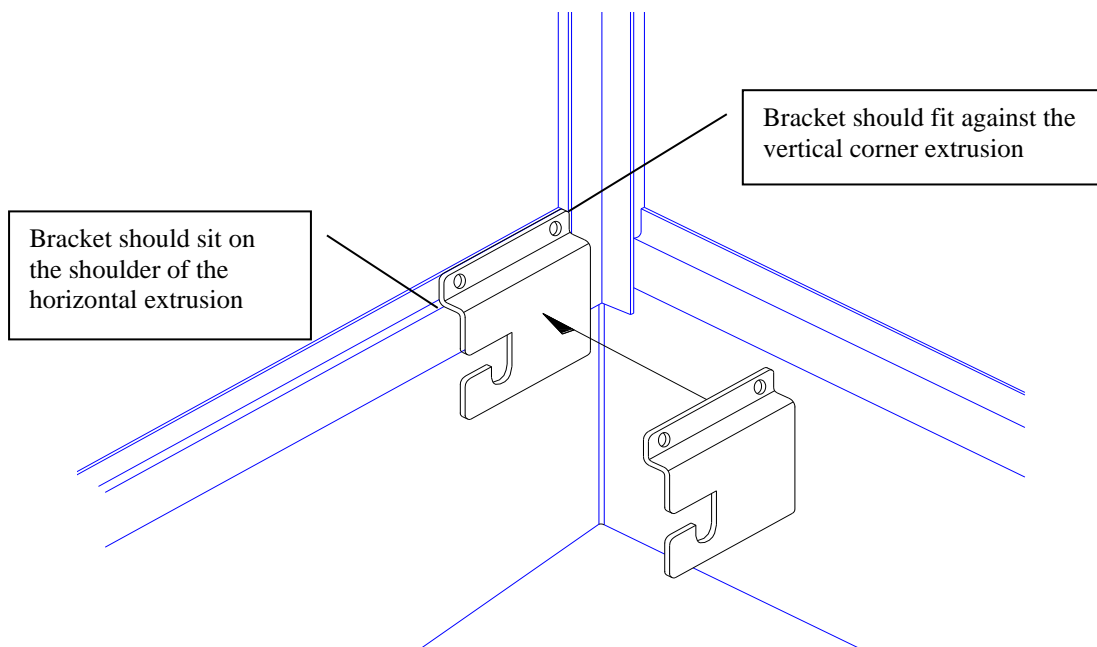

Figure 12.
1. Place a rest bench bracket on to the lower flange as shown in Figure 12. The flange should sit on the shoulder for the aluminum extrusion and be against the vertical extrusion. See Figure 12.